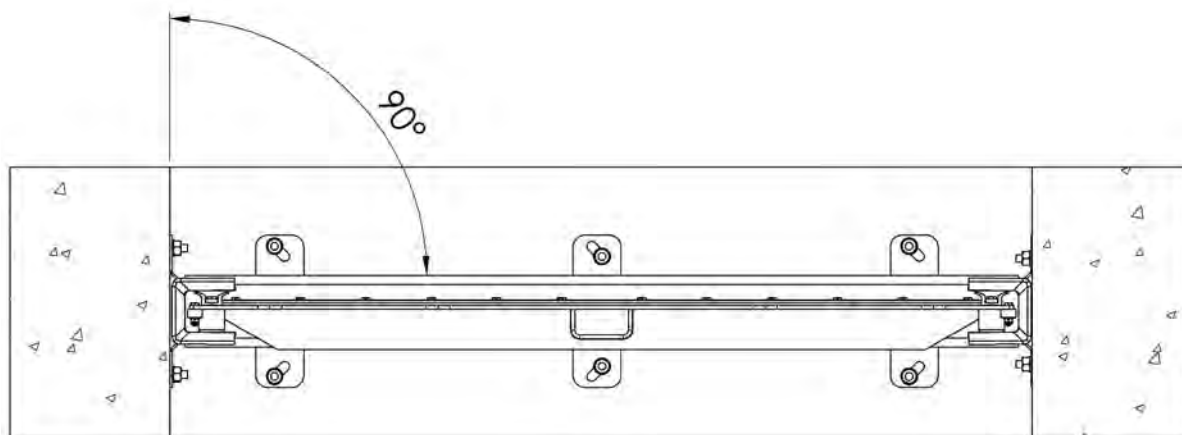

Figure 6
- Position the stop gate in the existing channel. Make sure that the gate is perfectly aligned and centered in the channel (see Figure 6).